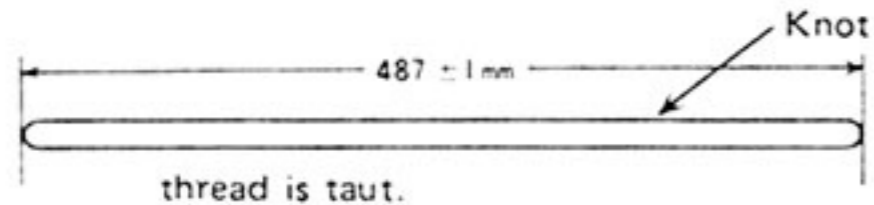

Fig. 4
- (1) Cut the thread into a length of 1010 mm.
- (2) Tie the thread together and shape it into the length shown in Fig. 4.